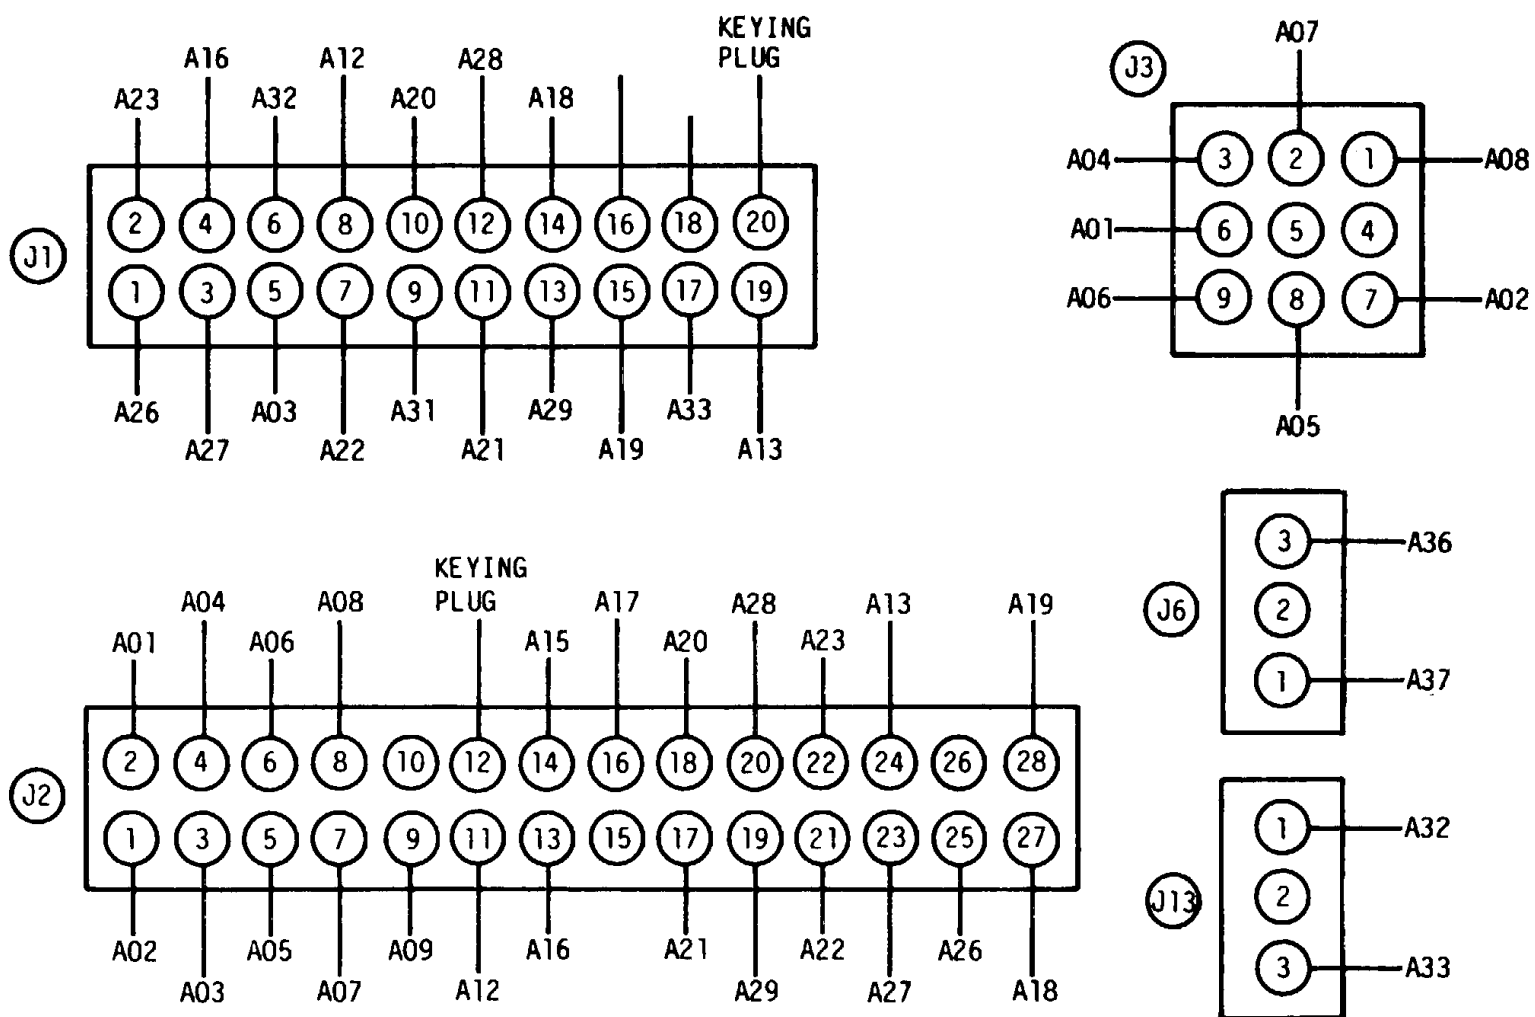

Figure D-2. Universal Wire Harness Wire and Connector Pin Numbers
d. Universal Wire Harness Wire and Connector Pin Numbers. This diagram (fig. D-2) provides information for making a continuity check between the universal wire harness and its various connections.